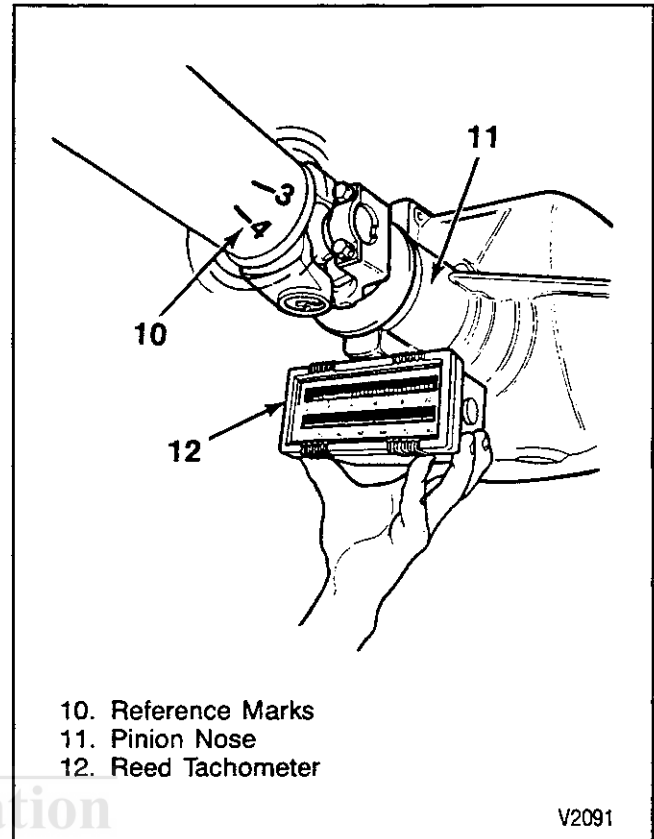

Figure 16—Propeller Shaft Reference Marks and Reed Tachometer Position
### HOSE CLAMP METHOD (Figures 16, 17, and 18)
2. Mark and number propeller shaft at four points 90 degrees apart at the rear of the propeller shaft just forward of the balance weights (figure 16).
4. Run the vehicle through the speed range to 50-55 mph (81-89 km/h). Note the amount of imbalance felt at the front of axle housing or as indicated by a reed tachometer or the EVA sensor. Refer to figures 16 and 17.
2. Mark and number the propeller shaft at four points 90 degrees apart at the rear of the propeller shaft just forward of the balance weights, as shown in figure 16.